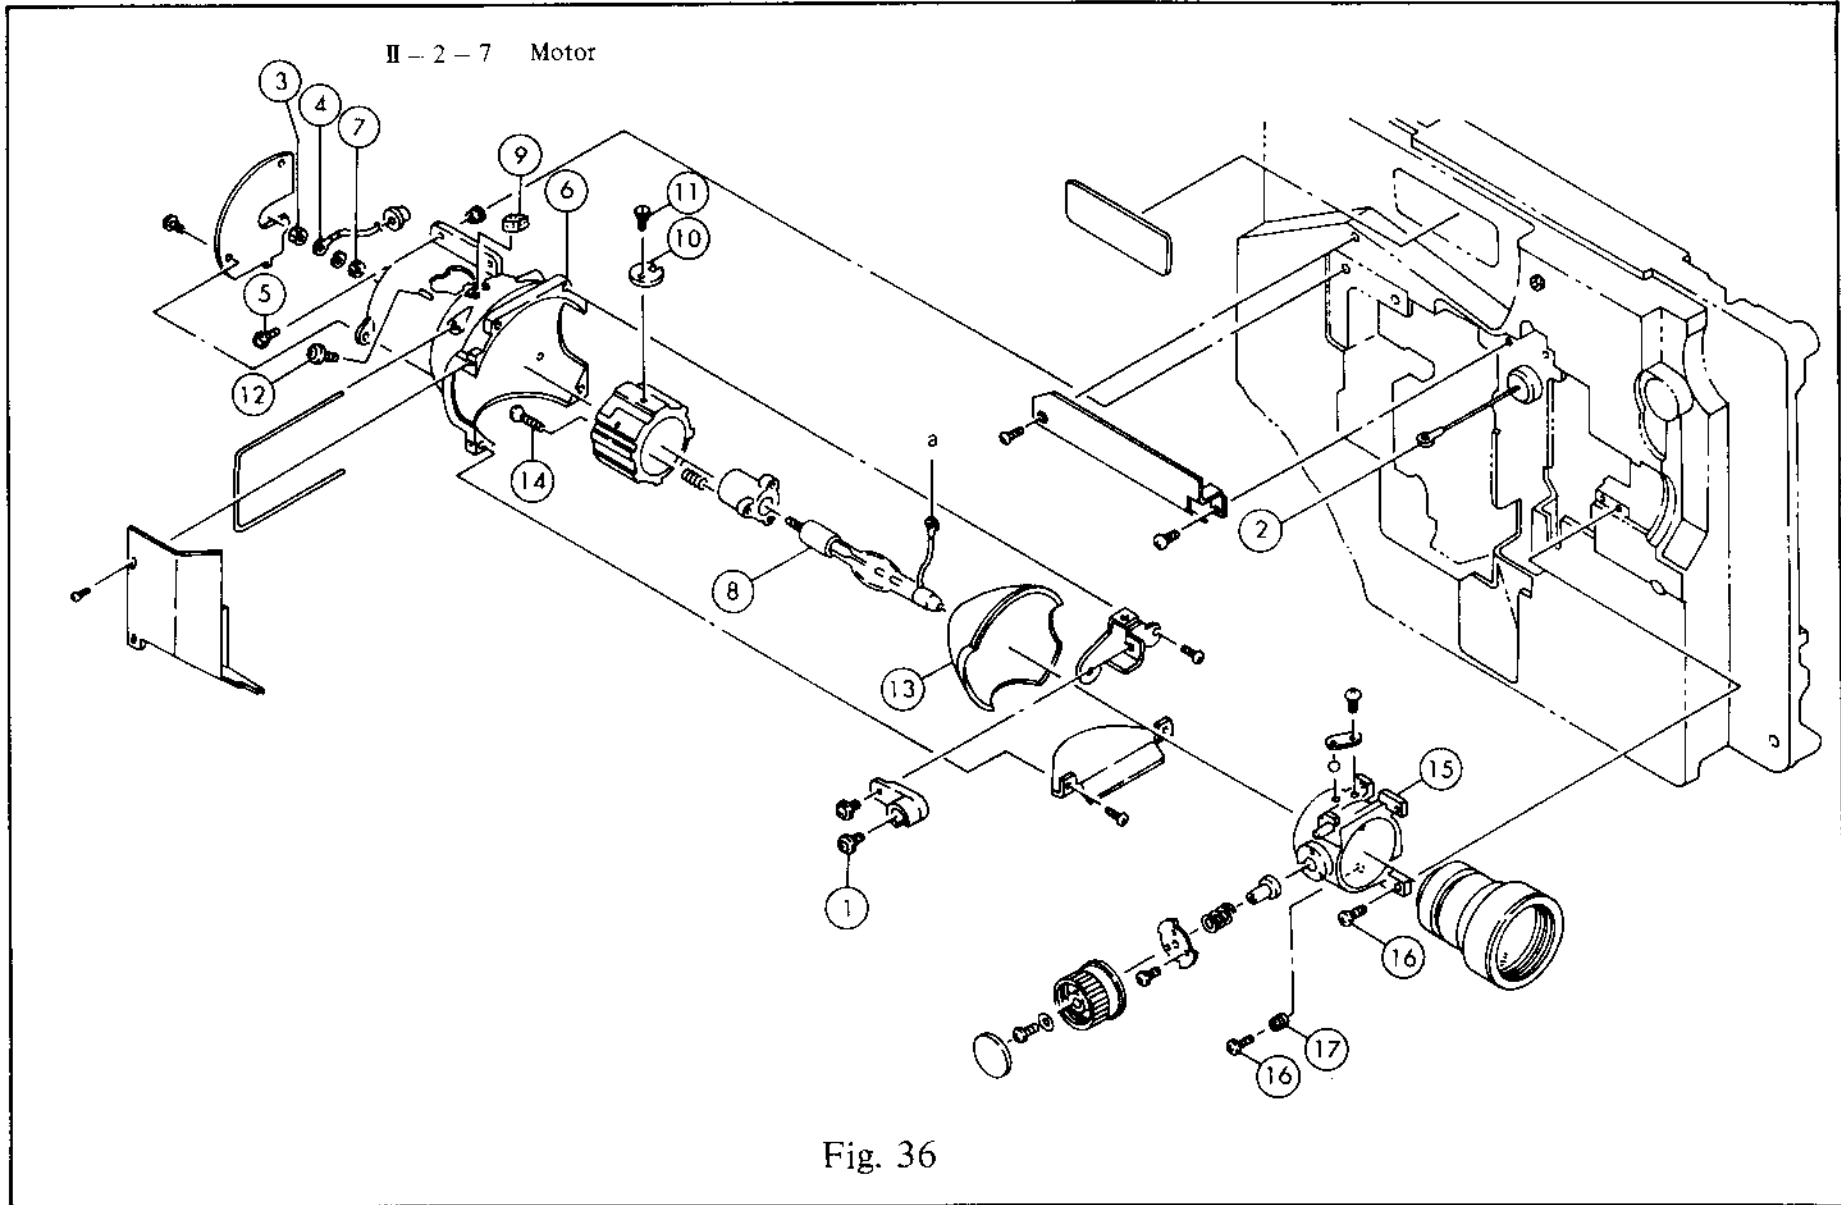

Fig. 36
1. Remove ① to remove the terminal of ②.
2. Remove ③ to remove ④.
3. Take out assy of ⑥ by removing ⑤ x 3 pcs.
4. Remove ⑦ to remove ⑧.
5. For further disassembly, refer to Fig. 36.
1. Take out assy of ⑮ by removing ⑯ x 4 pcs. (Be sure to apply screw lock after removing ⑯.)
2. Screw ⑰ is the screw to provide perpendicularity of ⑮.
3. For further disassembly, refer to Fig. 36.